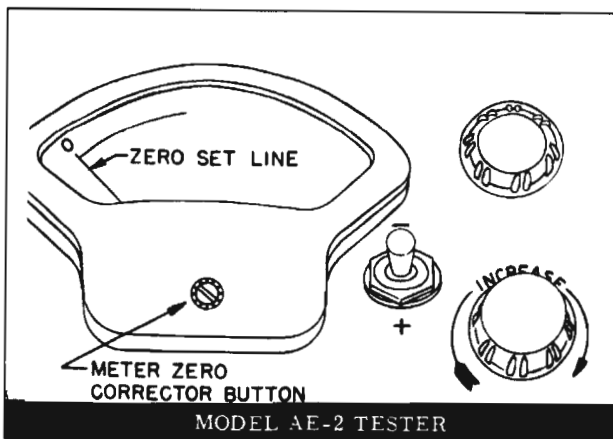

Fig. 13-37 Setting Zero Corrector
3. Turn Zero Corrector on face of tester until meter pointer is on zero set line. (Fig. 13-37)